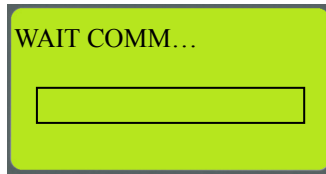

Figure 6-4 **WAIT COMM...**
shown in Figure 6-4.
- Step 7: After the users finish designing page 0, they can download the page. After the users press Esc on the TP04G series text panel used for a long time, menus will be displayed on the screen of the TP04G series text panel. After 1. **D/L AP TP04G ←PC** on the screen of the TP04G series text panel is touched, “WAIT COMM...” will be displayed on the screen of the TP04G series text panel, as shown in Figure 6-4.